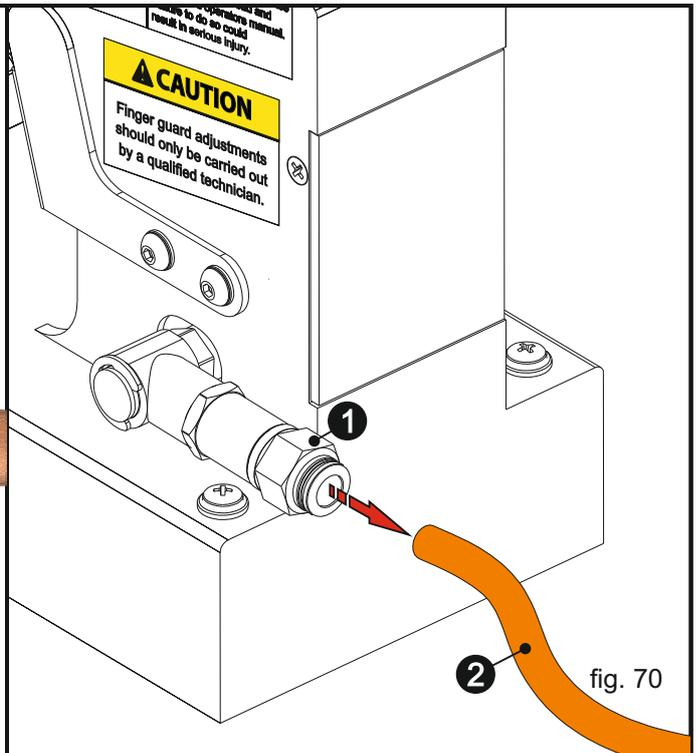

fig. 70
While the shaft stays at the lowest position, shut down your air source and unplug the air hose from the machine. In order to unplug the air hose from the machine, push the blue part on the air entrance ① to the machine direction and while doing that pull the air hose ② at arrow direction as shown in (fig. 70).